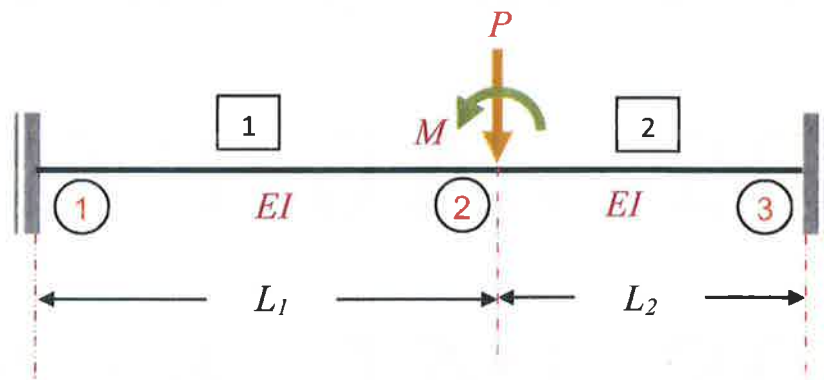

FIGURE Q4
4. **FIGURE Q4** shows a fixed end beam split into elements 1 and 2. The length of element-1 L_1 is 6 m, and the length of element-2, L_2 is 4 m, and the rigidity, EI is 12 kN-m². Node-2 is subjected to a vertically downward load P of 100 kN and an applied nodal moment M of 50 kN-m.